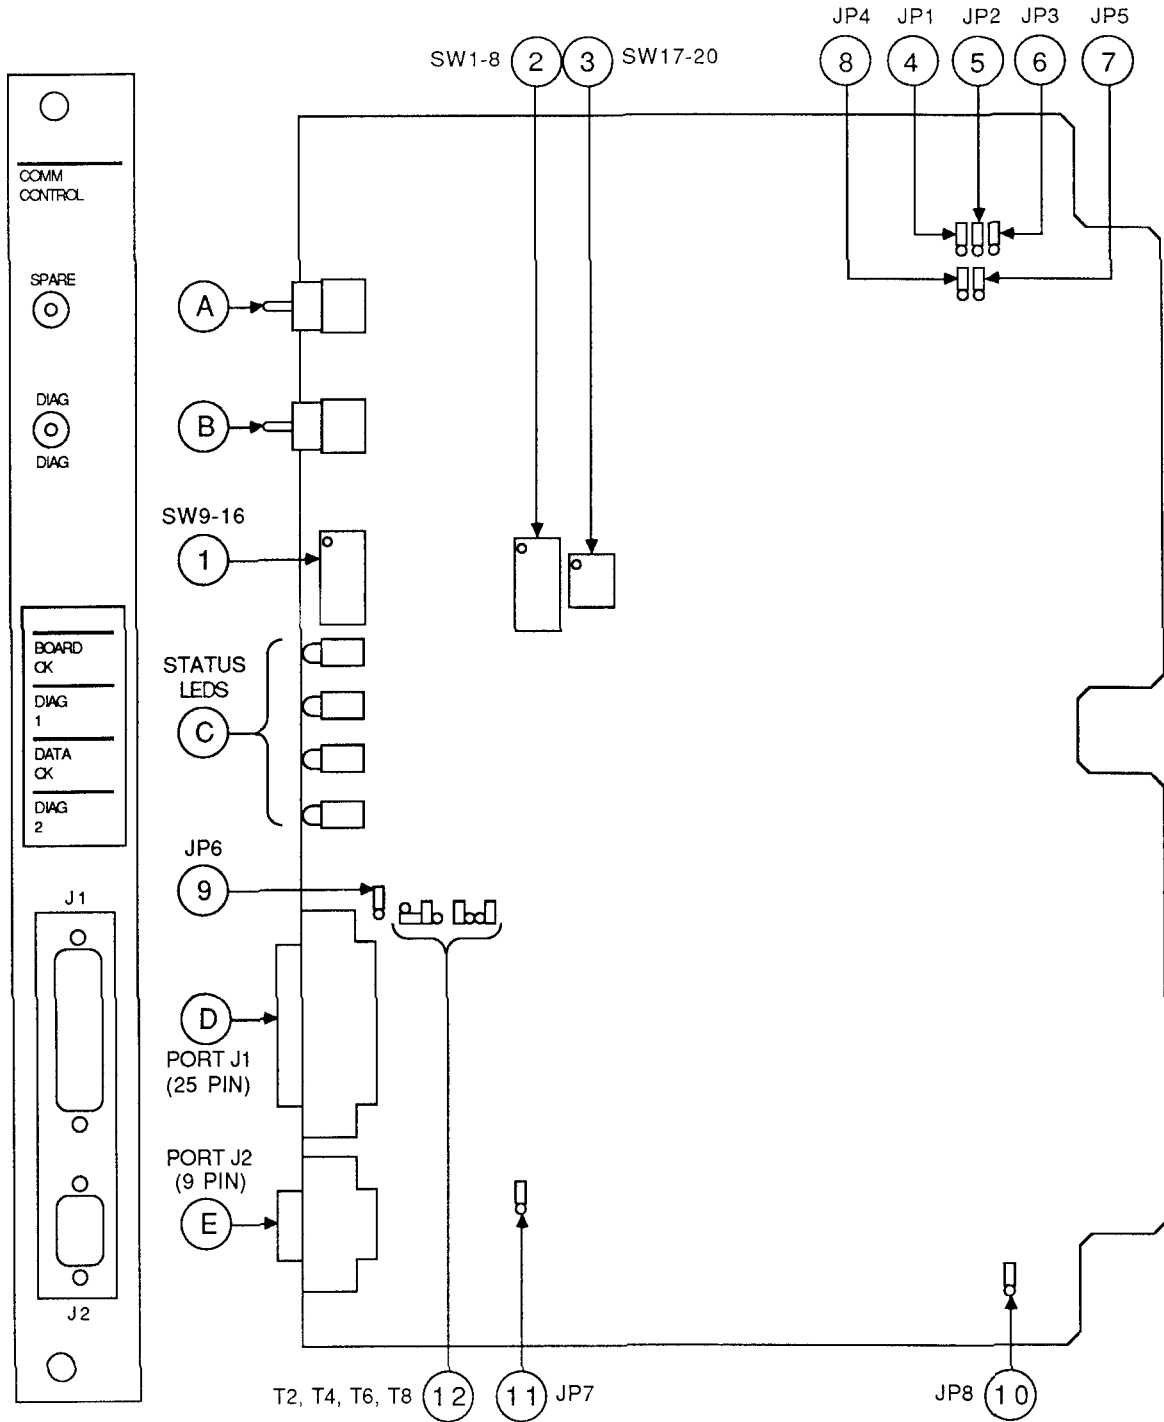

Figure 1. USER ITEMS
Before installing the CCM2/CCM3 in a CPU rack verify the position of the factory set jumpers (see Figures 1 and 2). Select the appropriate module function options by setting the on-board DIP switches (as required) per the coding shown in Tables 5, 6, 7 and 8.
- Wiring for a CCM 2-wire multidrop network is shown in Figure 1 I.